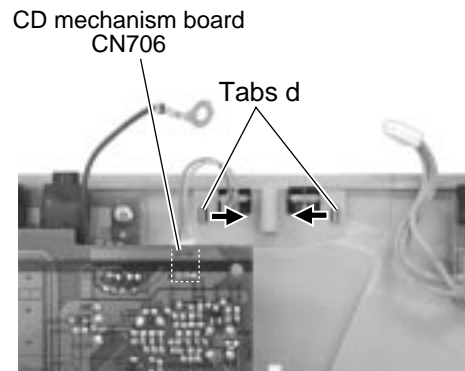

Fig.36
**■Removing the LED board (See Fig.36 and 37)**